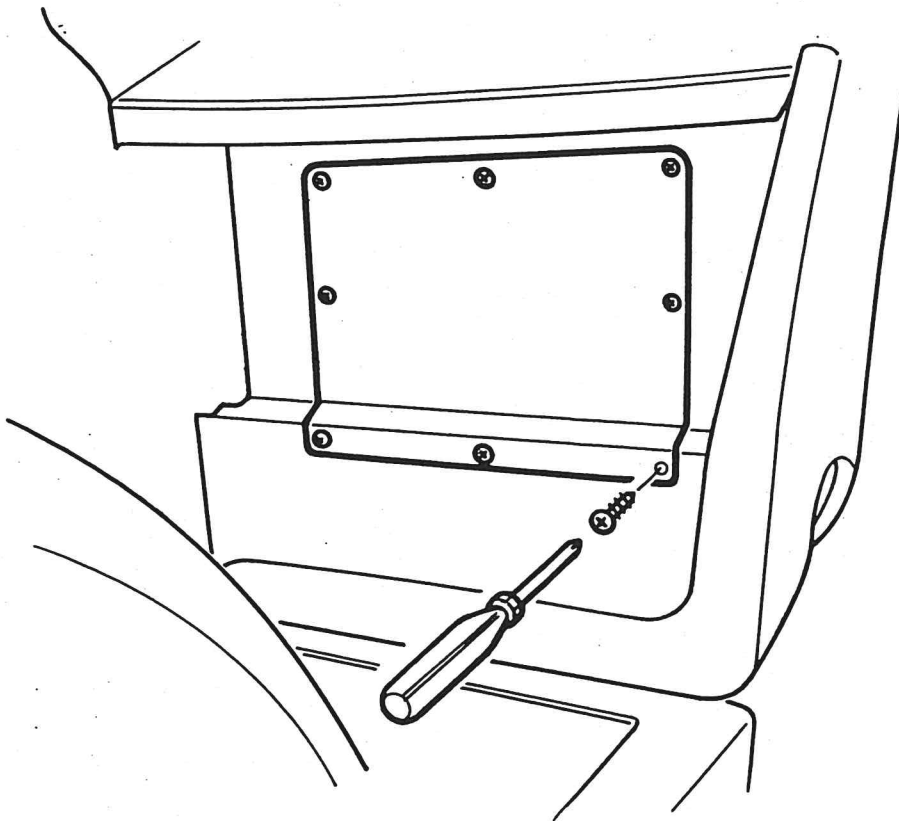

Fig. 5 Rear Lamp Access Panel
1. Refer to Fig. 5. Apertures have to be made in the back face of the engine bay cover behind each of the rear light clusters to provide access to the lights for bulb changing. The holes are cut using a 121mm hole cutter to make two overlapping holes side by side to provide a 200mm wide x 121mm high opening. The bottom of the opening should be located approximately 145mm up this section of panel from the bottom of the recess containing the rear light cluster and central left to right. Clean up the edges of the hole to make a clear oval opening.